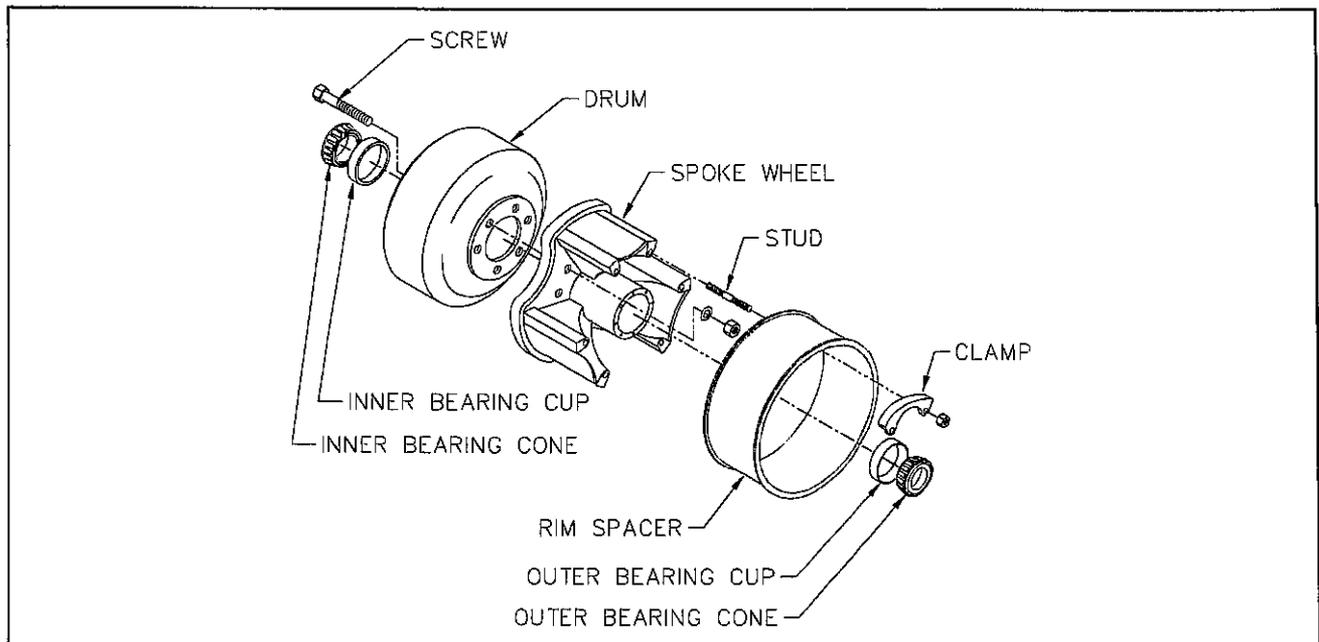
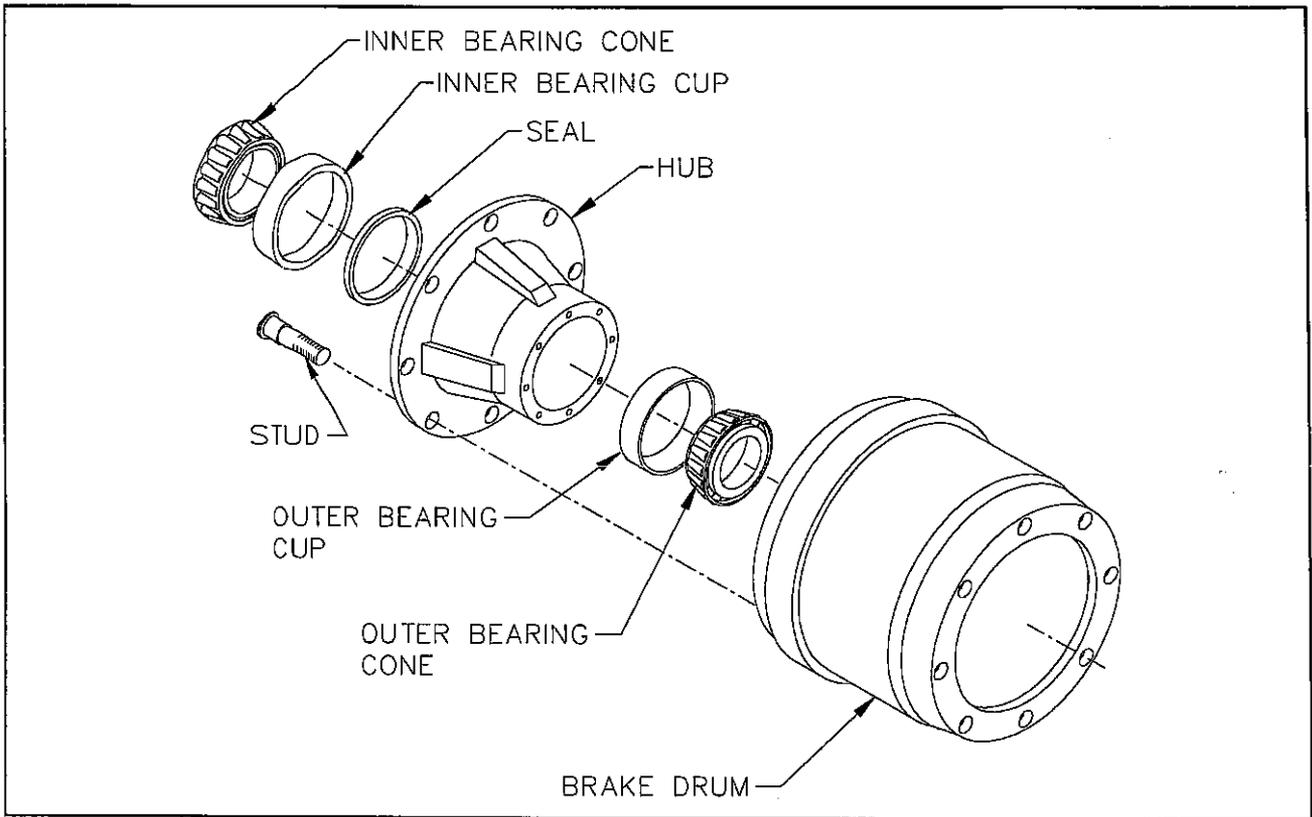
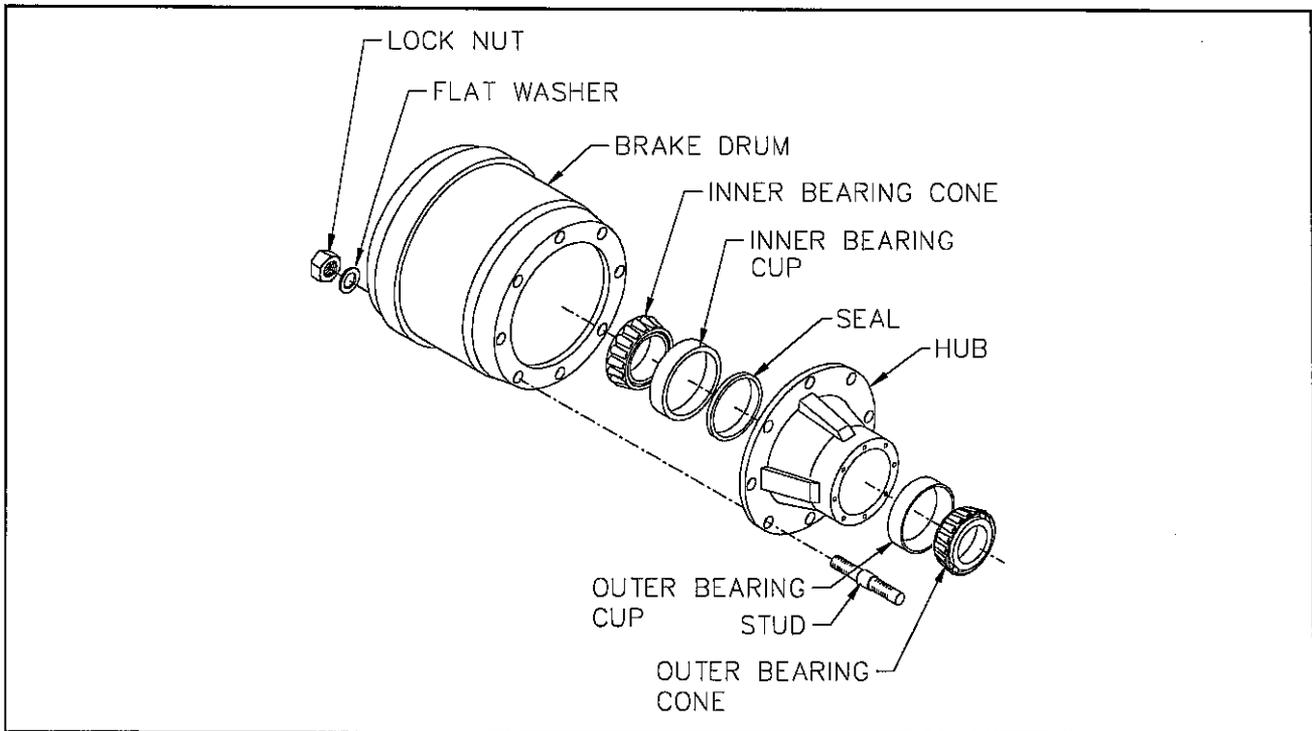

Figure 4-11 Three Spoke Wheel and Drum
Figure 4-12 Outboard Mount Hub and Drum
Figure 4-13 Inboard Mount Hub and Drum
4-9.4 Replace the hub and drum as follows (See Figures 4-11, 4-12, and 4-13):
a. For outboard mount hub and drum remove the brake drum (See Figure 4-12). It may be necessary to release the slack adjuster. For inboard mount (See Figure 4-13) and spoke wheel (See Figure 4-11) remove drum after hub.
s. For Outboard Mounted Brake Drum (See **Figure 4-12**) place the drum over the hub and brake shoes being careful not to damage the threads on the studs. Make sure the drum seats flat against the hub flange and mates properly with the hub pilot. There should be no interference between the brake drum pilot chamfer and the corner radius on the hub. If interference exists, the hub will not be able to function properly.